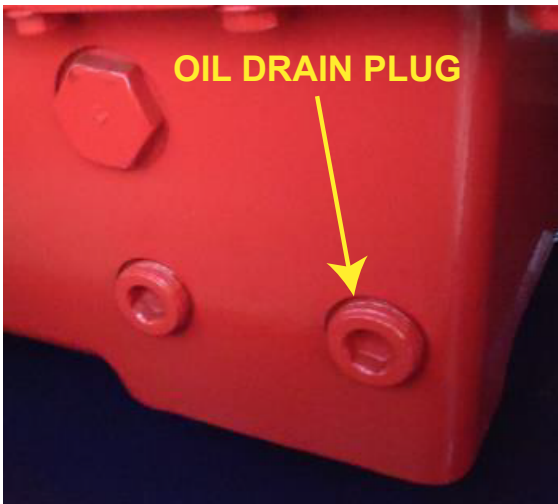

FIGURE 23 - OIL DRAIN PLUG
- Remove the drain plug on the bottom of the diesel engine oil pan. See FIGURE 23.